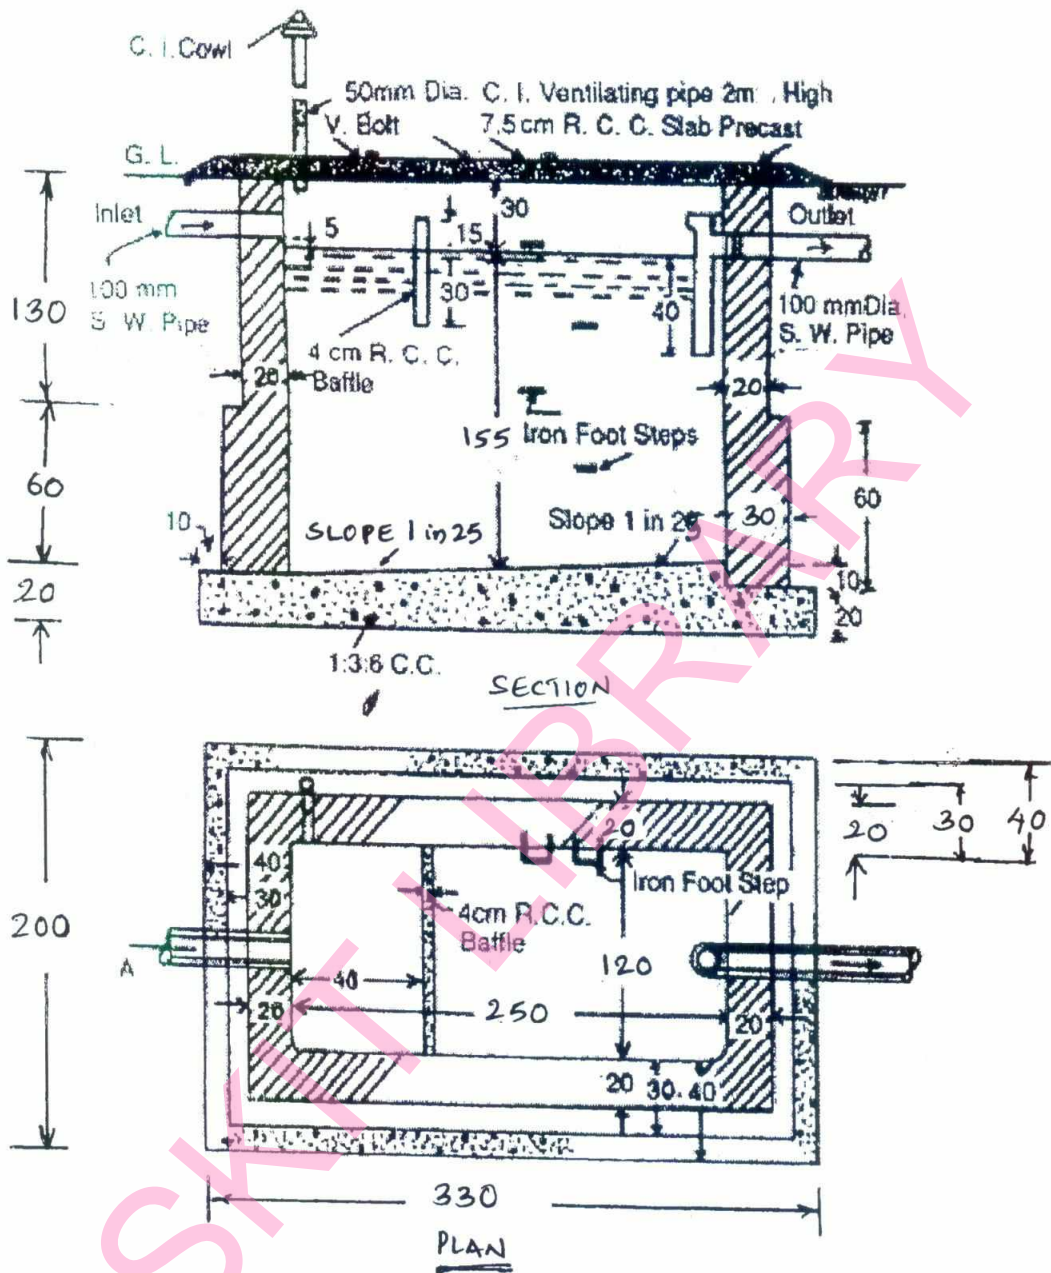

FIG Q2 - SEPTIC TANK
- 2 The plan and section of the “Septic Tank” is given in Fig.Q2. Work out the quantities and cost of the following items of the work: